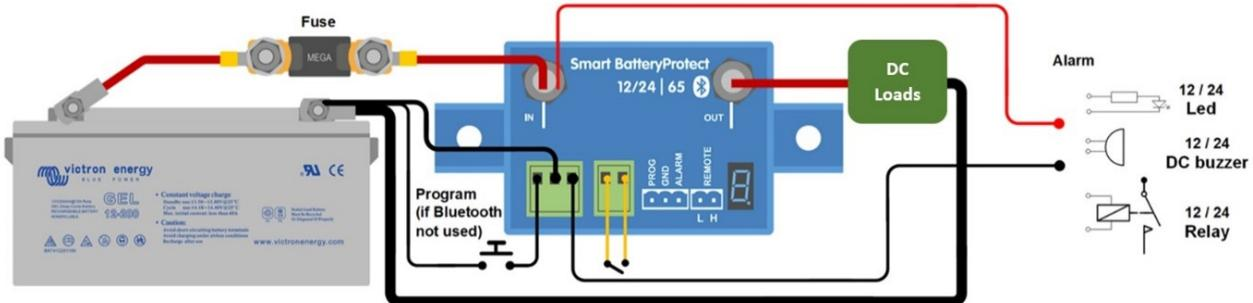

Figure 1: Connection diagram of the SBP-65 (use the remote input for system on/off functionality)
- A remote on/off switch can be connected between Remote H and Remote L (see figure 1).
- A buzzer, LED or relay can be connected between the alarm output terminal and the battery positive (see figure 1).